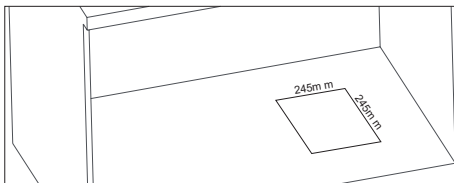

Fig. 40
4. Drill a hole of $\text{Ø}260$ mm for the engine exhaust air duct (Fig. 40).